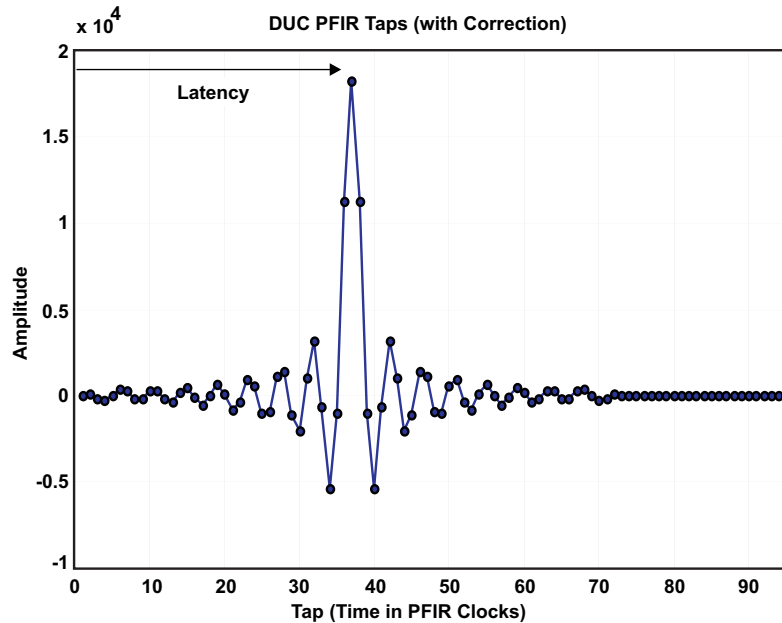

Figure 41. PFIR Tap and Filter Latency
The number of TX taps used in the DUC PFIR without CIC compensation is 69. After convolving with the 5 CIC compensation taps, the total PFIR length is 74 taps. Since this is less than one-half of the maximum PFIR taps (191), the DUC is asymmetric in time around the center of the PFIR coefficient memory, which is 96 taps. This is done to minimize the latency of the filter. The PFIR coefficient memory locations for taps 60 to 96 (Figure 41) are set to zero.